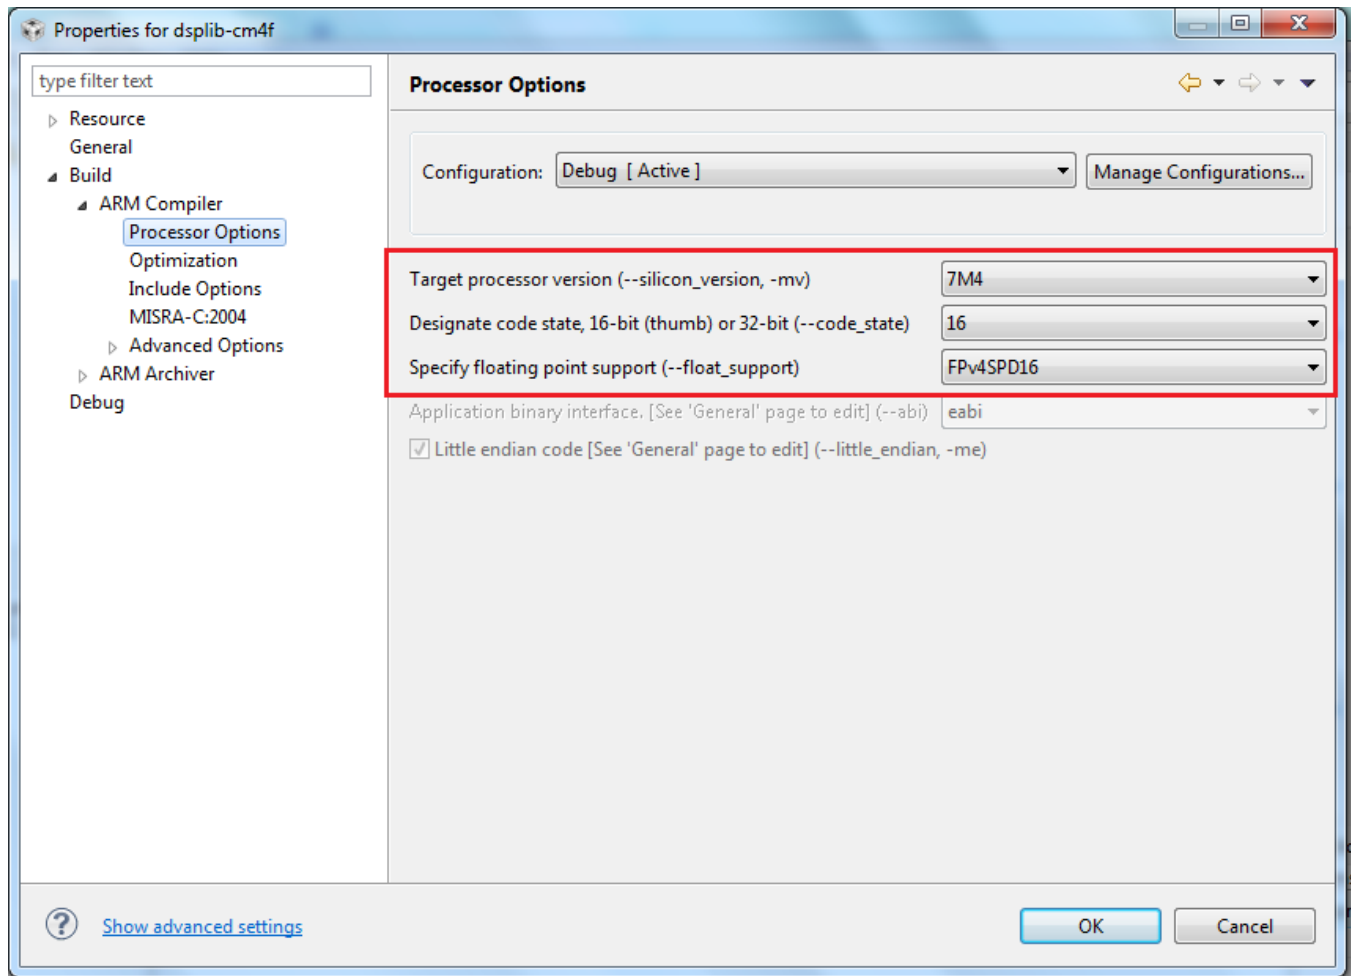

Figure 5. The Processor Settings for a Cortex-M4 Processor With Hardware FPU Support
- Confirm that the *Target_processor version (--silicon_version, -mv)* entry matches your processor in the Processor Options panel (see Figure 5). For this example, the Target processor should be 7M4 (as opposed to 7M3 for any of the Stellaris Cortex-M3 products).